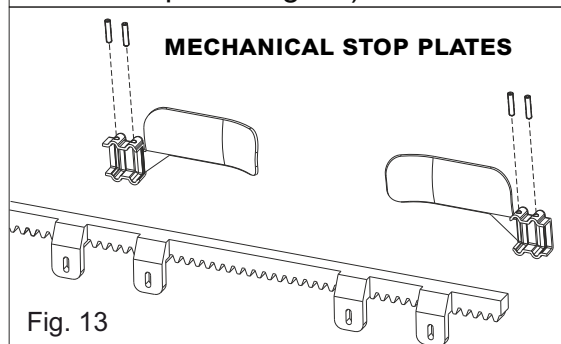

Fig. 13
- **MECHANICAL STOP:** place the plate (Fig. 13) on the rack according to the desired gate stop position; fix the plate on the rack using the screws.